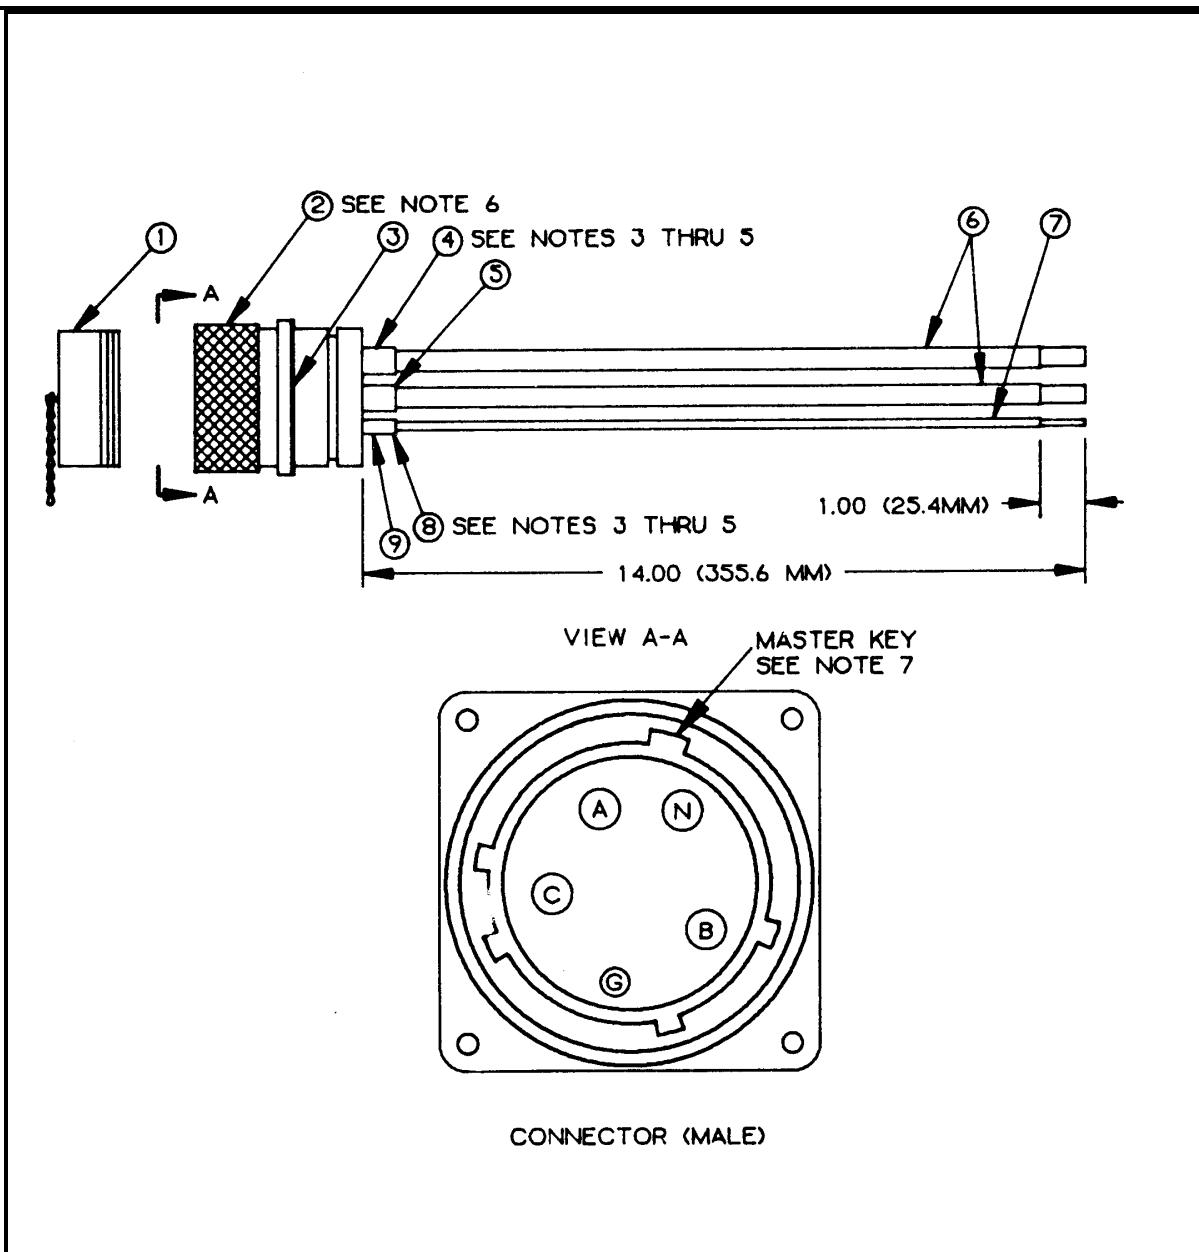

Figure F-8. M40, 40-Amp, Input Connector Assembly, (J1)
F-8 M40, 40-Amp Input Connector Assembly, (J1)**Component Legend for Figure F-8**
- c. Electrical connector (Figure F-8, Item 2) is furnished with the following: